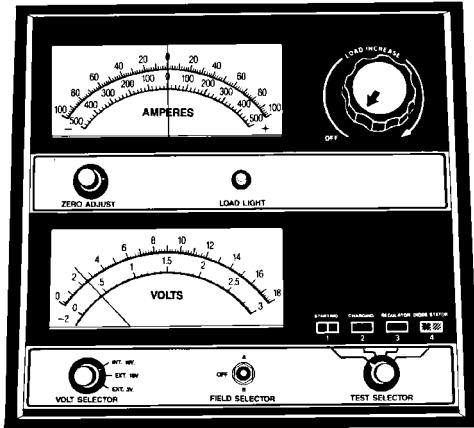

Fig. 8 Voltmeter - Typical
(1) Measure the voltage at the battery posts with a voltmeter, accurate to 1/10 (0.10) volt (Fig. 8). If the reading is below ten volts, the battery charging current will be low. It could take some time before the battery accepts a current greater than a few milliamperes. Such low current may not be detectable on the ammeters built into many battery chargers.